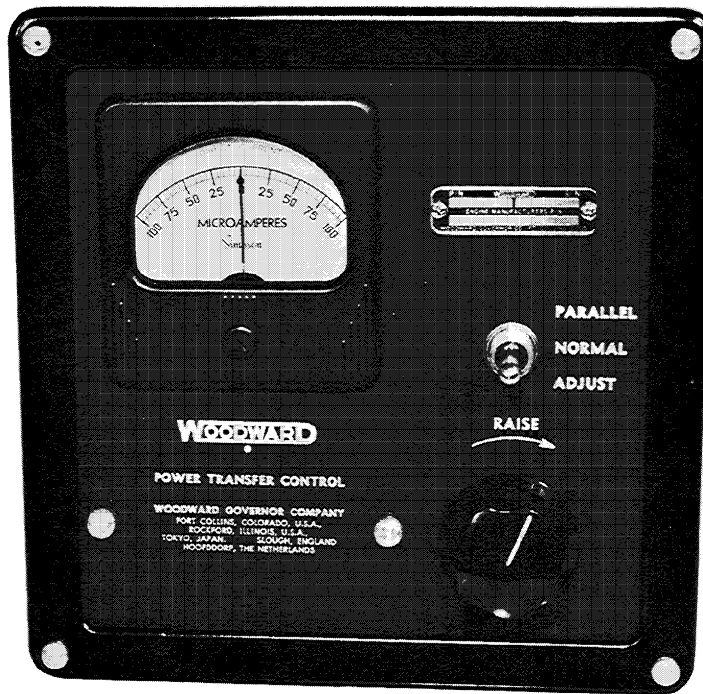

Figure 2-1. Controls and Indicator
**Parallel/Normal/Adjust Switch**—The Parallel/Normal/Adjust switch (see Figure 2-1) selects the operating mode of the power transfer control. The PARALLEL position couples the control signal directly to the paralleling lines. The NORMAL position open circuits the control signal from the paralleling mm. The ADJUST position couples the control signal through the front-panel meter to allow adjustment of the control signal to match the load signal at the load sensor.